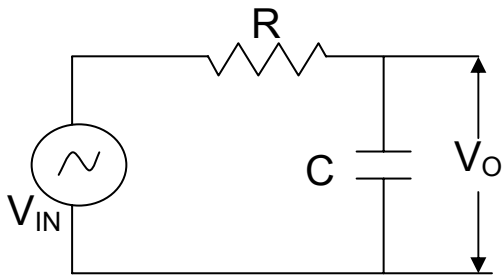

Figure 1: Low Pass RC filter.
1. Set up the circuit shown in the **Figure 1** with the component values $R = 1.1 \text{ k}\Omega$, $C = 1 \mu\text{F}$. Switch on the Elvis Power Supply.